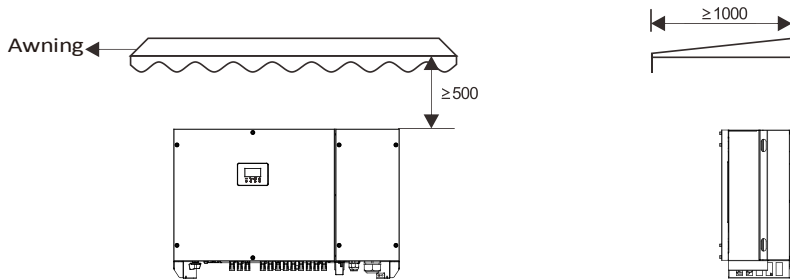

Figure 4.2 Installation environment with awning (unit: mm)
- ① The ambient temperature lower than 50 °C ensures the inverter's optimal operation and extends its service life.
- ② The inverter must be installed in a well ventilated environment to ensure good heat dissipation.
- ③ The inverter must be free from direct exposure to sunlight, rain, and snow to extend its service life. It is recommended that the inverter be installed in a sheltered place. If no shelter is available, build an awning, as shown in Figure 4.2